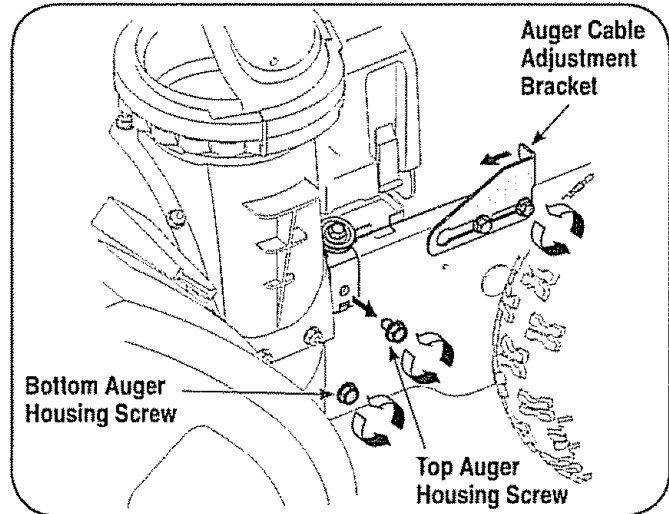

Figure 12
1. Loosen the rear hex bolt on the cable adjustment bracket. See Figure 12.